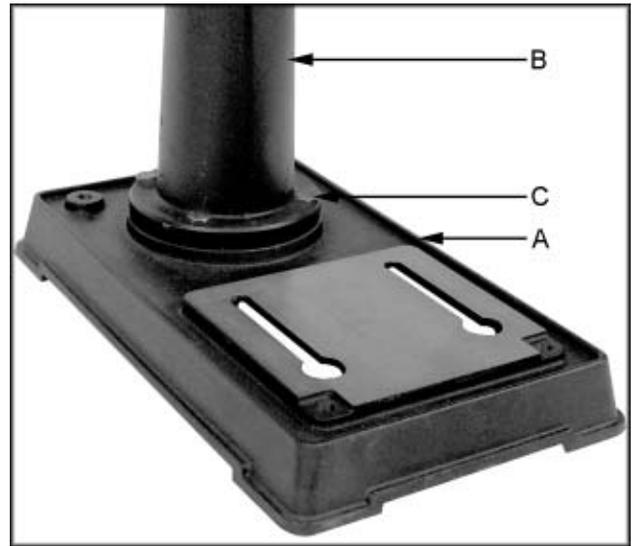

Fig. 1
1. Place the base (A, Fig. 1) on a level floor.
2. With a 17mm wrench attach the column assembly (B, Fig. 1) to the base (A, Fig. 1) with four M10 x 40 hex cap bolts (C, Fig. 1). Tighten firmly.